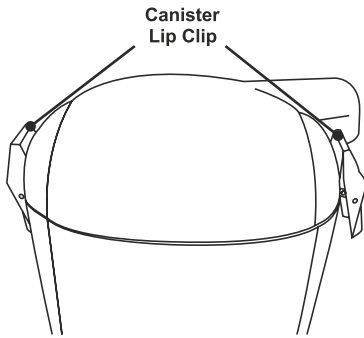

Fig 18
1. To remove the Dust Bag, press on the canister lid tabs on each side of the unit and lift canister lid. (Fig.18)
2. Pull the tab on the Dust Bag holder out slightly and lift upwards. (Fig.18)